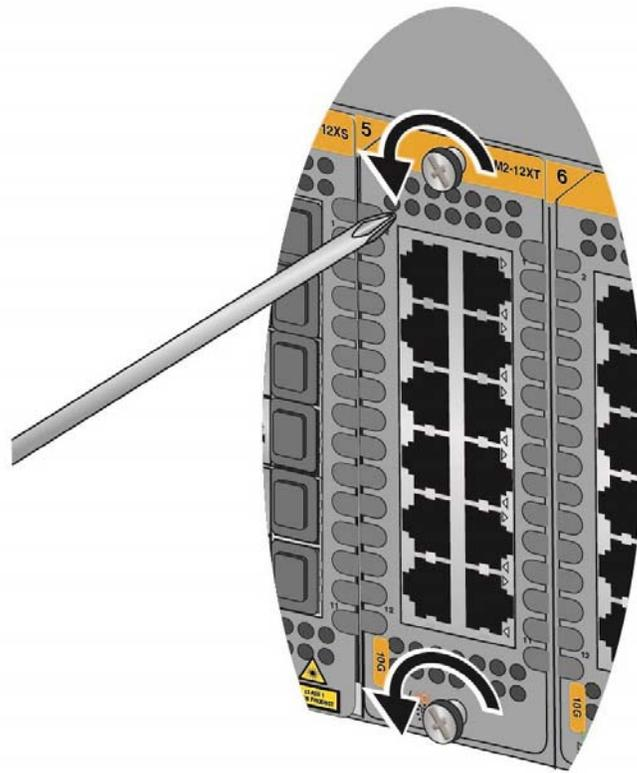

Figure 123. Loosening the Screws on the Ethernet Line Card
4. Use a #2 Phillips-head screwdriver to loosen the two screws on the faceplate of the card. Refer to Figure 123 on page 205.